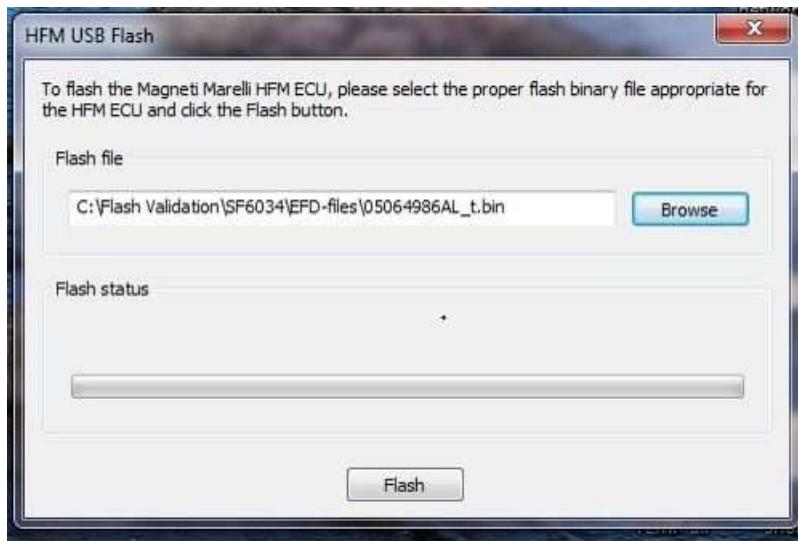

Fig. 4
5. Turn the vehicle ignition key to the RUN position and then start the application. You will be prompted to browse for the HFM flash file. Navigate to the location of the flash file that you extracted. The flash file will have a “.bin” extension. Click on the “Flash” button (Fig. 4) .